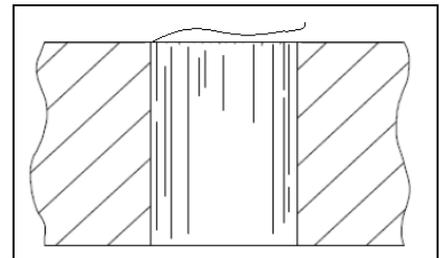

Figure 3 Whisker Burr
- Whisker Burr (see Figure 3):